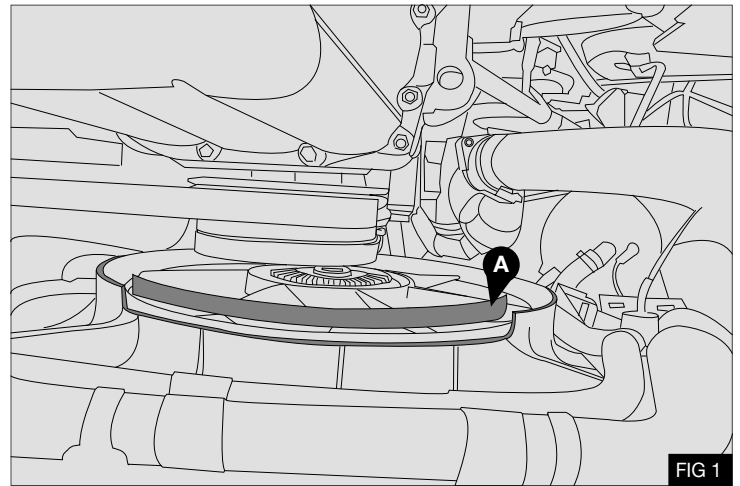

FIG 1
1. Cut the fan cowl along the original marked line (A) as shown - Fig 1
2. Remove and discard the original stretch belt - Fig 1